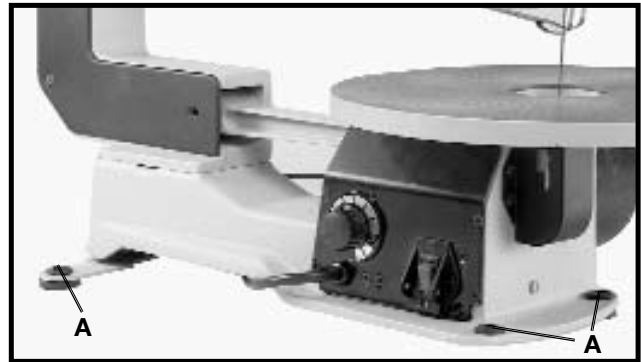

Fig. 16
**⚠ WARNING:** Your scroll saw **MUST** be securely fastened to a stand or workbench using the holes in the four rubber feet, three of which are shown at (A) Fig. 16.
**IMPORTANT:** When mounting the saw to a stand or workbench **DO NOT** over-tighten mounting bolts. Leave some cushion in the four rubber feet (A) for absorbing noise and vibration.